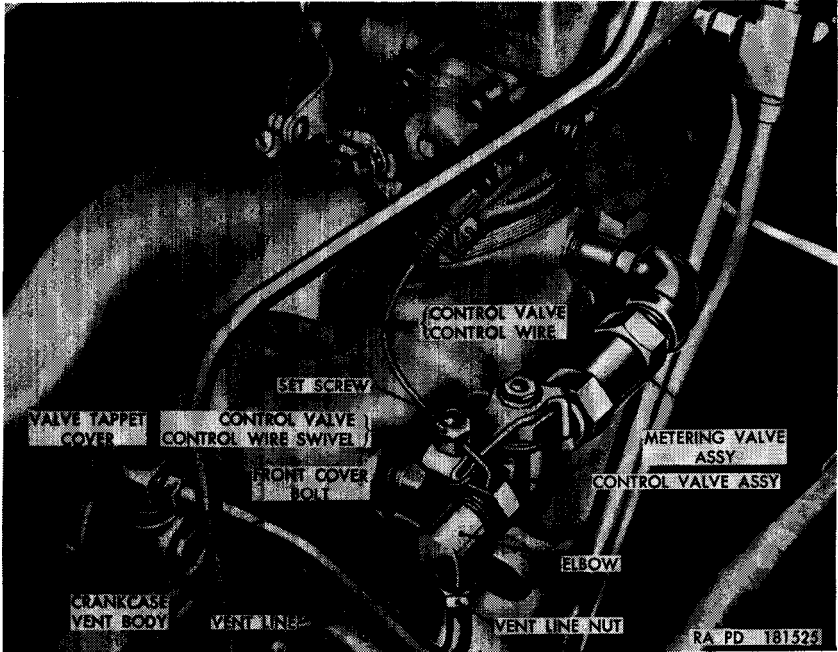

Figure 27. Crankcase control valve and vent metering valve assemblies—installed.
a. Removal (fig. 27).
- (1) Unscrew the vent line nut from the elbow on the crankcase control valve assembly. Remove the front cover bolt securing the crankcase vent body and valve tappet compartment cover to the cylinder block. Remove the vent body and gasket with the elbow and the vent line connecting the compartment cover and the elbow on the control valve assembly. Discard gasket.
b. Crankcase Control and Vent Metering Valve Assemblies (fig. 27).
- (2) Unscrew the nuts at each end and remove the fuel and vacuum pump-to-intake manifold line (C).
- (3) Remove fuel and vacuum pump-to-tee line (D) by unscrewing nut at each end of the line.
- (4) Loosen the set screw securing the crankcase control valve control wire (N) to the crankcase control valve control wire swivel (F) and pull the control wire out of the swivel.
- (5) Remove the vent line (M) between the crankcase control valve assembly (G) and the crankcase vent body (fig. 27) by unscrewing nut at each end of the line.
- (6) Remove the crankcase control valve and vent metering valve assemblies (G and E) by unscrewing the pipe nipple from the intake manifold.
- (7) Remove the nut from the bolt (K), and nut (L) from the stud, connecting the exhaust pipe to the exhaust manifold.
- (8) Remove the four nuts (B) one at the front of the intake manifold; one at the rear of the intake manifold; and two, with flat washers, at the center securing the intake and exhaust manifold assembly to the cylinder block. Remove the three nuts (A) securing the exhaust manifold to cylinder block.
- (9) Slide the intake and exhaust manifold assembly away from the block and off the studs and lift out of the vehicle.
- (10) Remove the four lockwasher screws (J) attaching the intake and exhaust manifolds (Q and R). Remove heat control valve spring stop (H). Remove gasket between the intake and exhaust manifolds and clean the contacting surfaces. Also clean the gasket contacting surfaces on cylinder block and intake and exhaust manifold assembly.
- (4) Insert a new exhaust pipe flange gasket between the pipe flange and the exhaust manifold flange. Lift the exhaust pipe up and over the stud in the exhaust manifold flange and screw $\frac{3}{8}$ -inch nut (L) onto the stud part way. Insert $\frac{3}{8}$ x $1\frac{1}{2}$ bolt (K) through the exhaust manifold flange, gasket, and pipe flange and screw on $\frac{3}{8}$ -inch nut. Tighten nut (L) and the nut on the bolt (K) with equal tension to secure exhaust pipe to the manifold assembly.
- (5) Install the crankcase control valve and vent metering valve assemblies (G and E) on intake manifold by screwing the pipe nipple into the manifold to the position shown.
- (6) Insert the crankcase control valve control wire (N) through the crankcase control valve control wire swivel (F) and tighten the set screw securing wire to swivel. Position the vent line (M) between the crankcase control valve and the crankcase vent body (fig. 27). Screw nut into the fitting at both ends of the line and tighten.
- (7) Position fuel and vacuum pump-to-tee line (D) between the fuel and vacuum pump and the tee and tighten the two nuts.
- (8) Position fuel and vacuum pump-to-intake manifold line (C) between the fuel and vacuum pump and the intake manifold and tighten the two nuts.
- (9) Install carburetor (par. 129c).